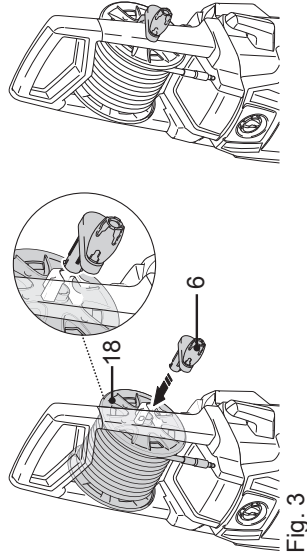

Fig. 3
3. Push the crank (6) into the opening of the reel (18), ensure it clicks in place (Fig. 3).